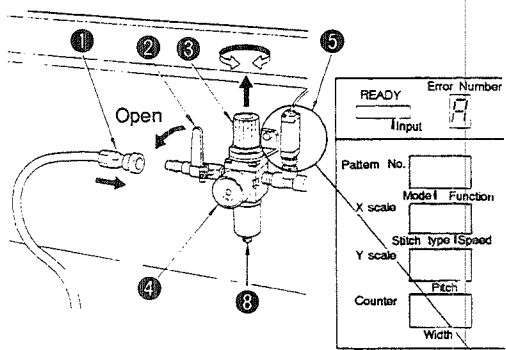
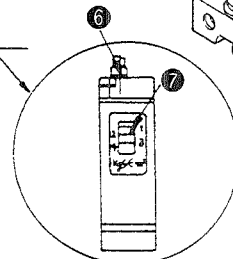

Fig. 4-4-1
Fig. 4-4-2
- 1) Connect quick-coupling joint socket plug ① in place and open air cock ②. Then pressure gauge ④ indicates 5 to 5.5 kg/cm². (Fig. 4-4-1)
- 2) If pressure gauge ④ indicates a lower value (lower than 4 kg/cm²), the machine will stop with Error **A** shown on the operation panel. (Fig. 4-4-1)
- 1) Open air cock ②. Pull up air adjusting knob ③, then turn it until pressure gauge ④ indicates 5 to 5.5 kg/cm². Then push down the knob to fix it at that position. (Fig. 4-4-1)
Turn adjusting screw ⑥ of pressure switch ⑤ to make pointer ⑦ indicate scale 4. (Fig. 4-4-1 and Fig. 4-4-2)
- * To set the air pressure to 0 kg/cm², close air cock ② and press button ③. (See Fig. 4-4-1.)